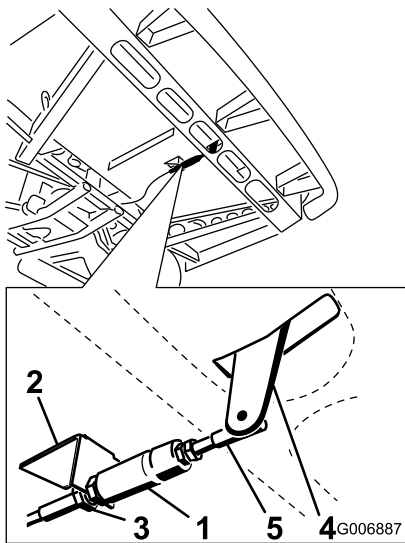
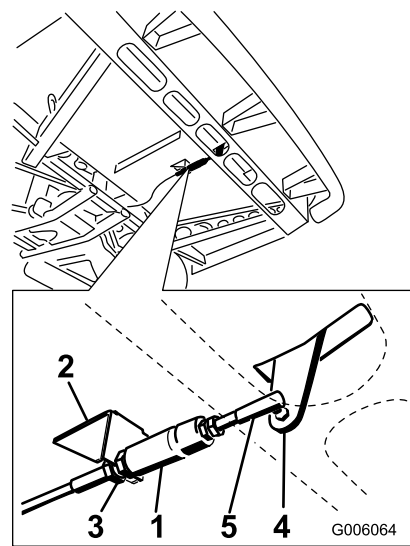

Figure 2
Figure 3
4. Loosen the jam nuts securing the accelerator cable to the bracket under the floor (Figure 2 or Figure 3).
Note: On models with serial numbers 240000001 thru 259999999, the accelerator cable is mounted to the left side of the accelerator pedal (Figure 2). On models with serial numbers 260000001 and up, the accelerator cable is mounted to the right side of the accelerator pedal (Figure 3).
5. Unsnap the accelerator cable end from the ball joint stud on the accelerator pedal ball joint (Figure 2 or Figure 3).
6. Remove the nut securing the accelerator cable ball joint to the accelerator pedal (Figure 2 or Figure 3). Remove the ball joint.